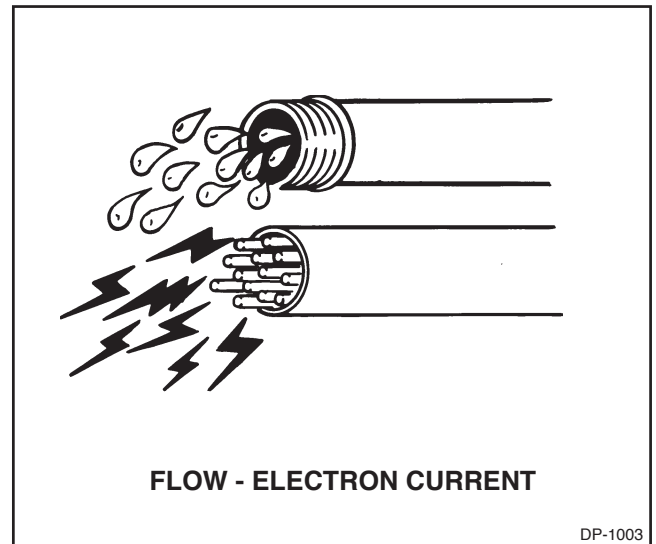

Figure 1-3. Current
2. Current (See Figure 1-3). Electrical current is the flow or movement of electrons in a conductor. This movement can be compared to the flow of water through a pipe. Without pressure (voltage) the current will not flow. Electrical flow is measured in amperes, most often abbreviated as amps.